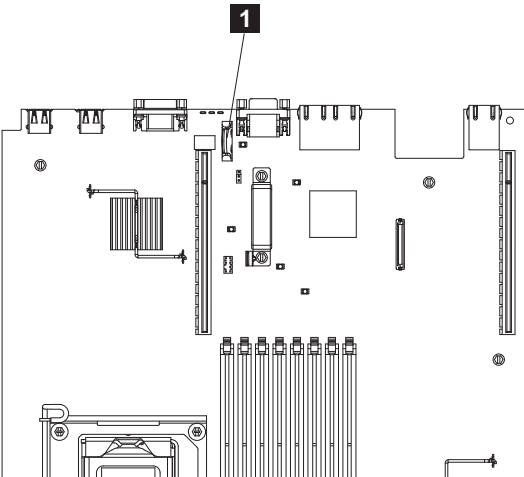

Figure 193. Location of the SAN Volume Controller 2145-CG8 or 2145-CF8 CMOS battery holder
2. Locate the battery on the system board. Figure 193 shows the location (**1**) of the battery on the system board.